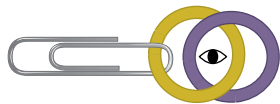

FIG. 2
2. Thread 1 open (purple) jump ring through the first closed (yellow) jump ring and then close it (**FIG. 2**).
marked in figure 2. The direction you choose to rotate the jump ring must be maintained throughout the chain and will establish the direction of your spiral.